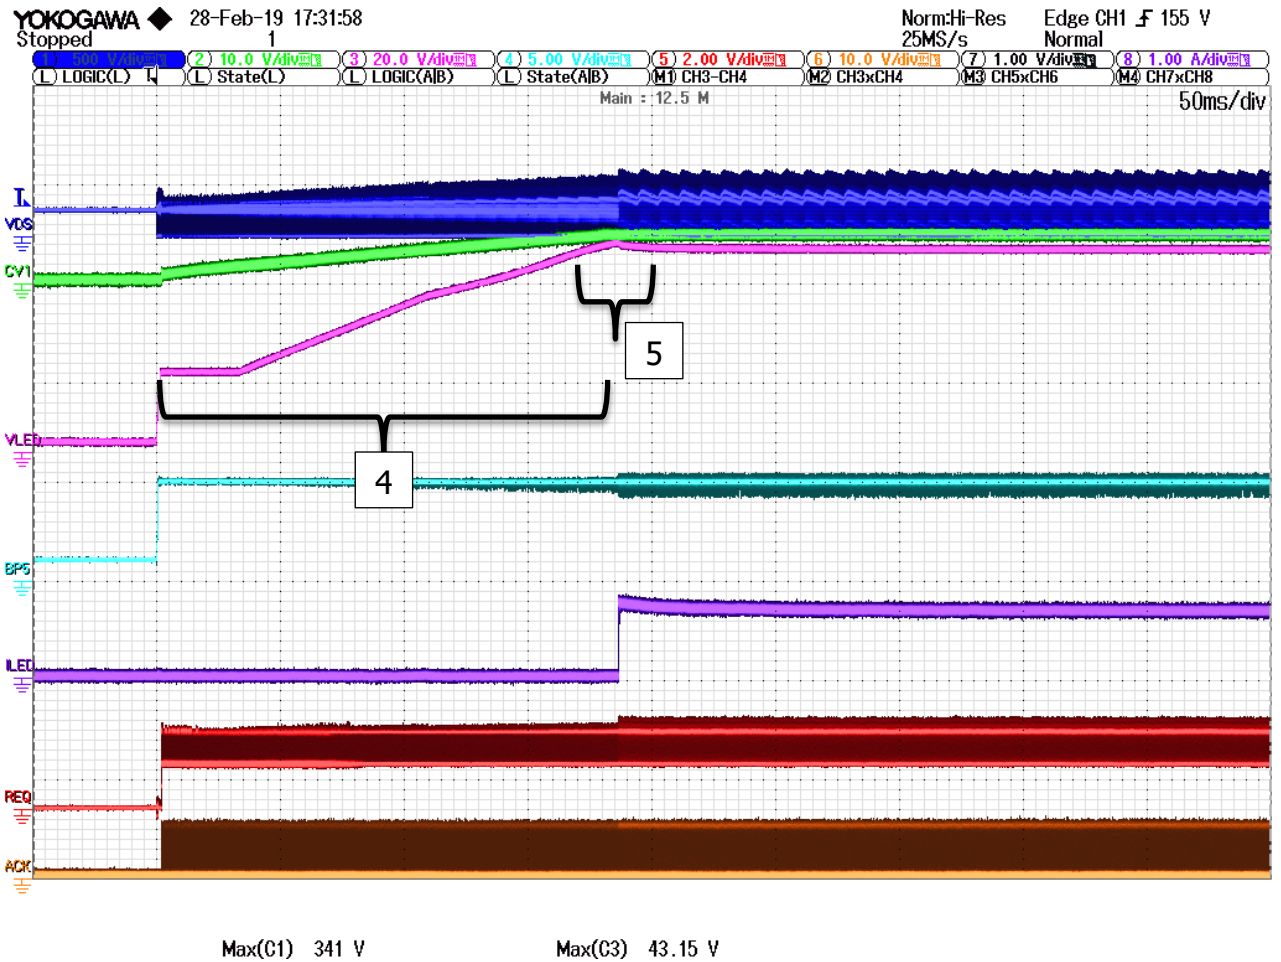

Figure 6 – Complete Start-Up Cycle Over Approximately 230 ms.
4. CV1, CV2, and LED output voltages can be seen to rise simultaneously (Figure 6). At some time during interval 4, the CV2 will reach a sufficient level to power the internal BP regulator via the VCV2 pin (U1 pin 25). The input of the BP regulator then switches automatically to the VCV2 pin, thus reducing the power dissipation in the BP regulator.